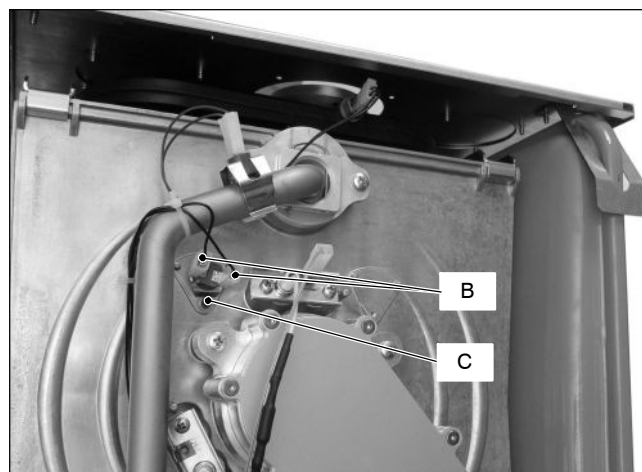

Fig. 19.2
- 2 Disconnect the wiring B (detail in Fig. 19.2).